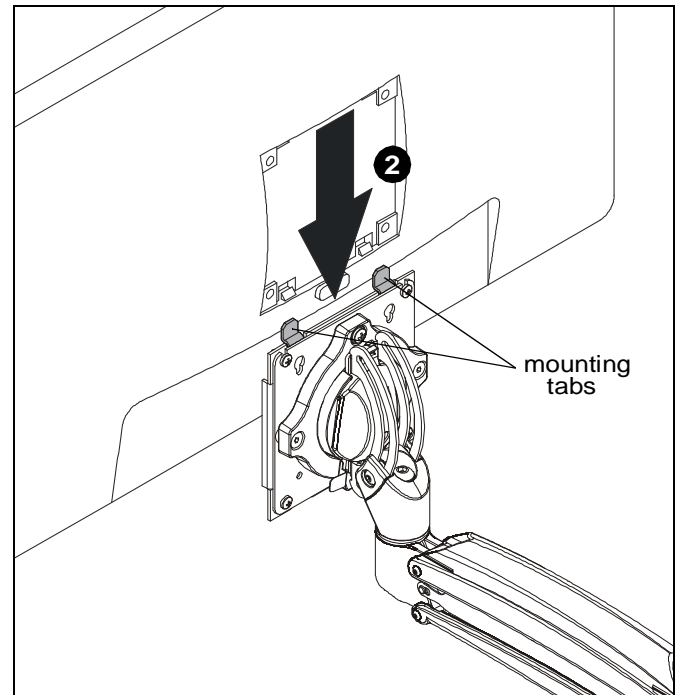

Figure 12
1. Position monitor over mounting tabs on quick-connect bracket (A). (See Figure 12)
2. Lower monitor onto quick-connect bracket, inserting mounting tabs into top two top mounting holes on back of monitor. (See Figure 12)